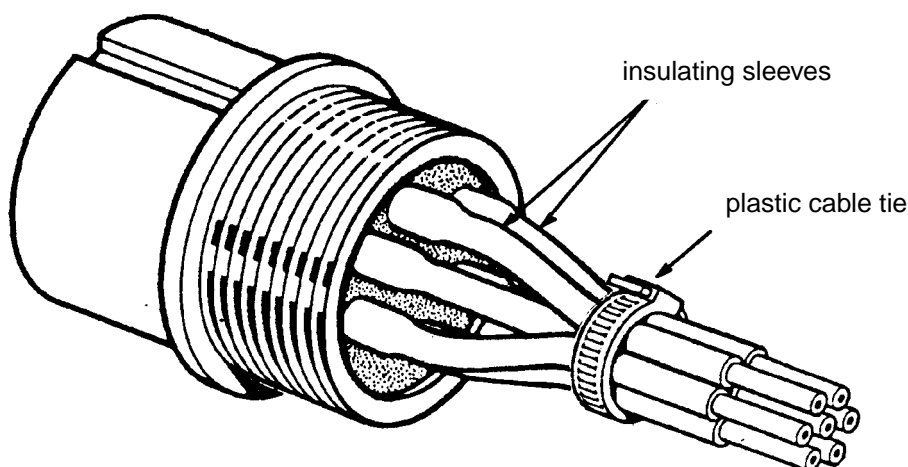

Figure 3 - Tying Insulating Sleeves
- Step 4. Ensure that all wires are pre-shaped into the wire bundle at the cable clamp or first cable tie to prevent lateral strain on the contacts (see Figure 3).
- Step 5. Tie insulating sleeves in place using a plastic cable tie according to PPS 9.04 (see Figure 3). Locate the plastic cable tie inside the backshell where it will not interfere with the cable clamp.